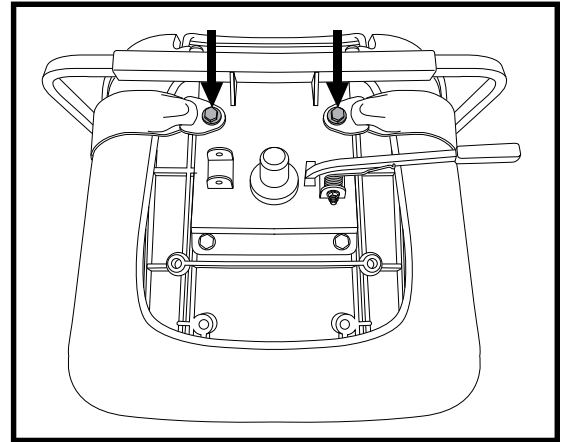

Figure 29. Positioning Belt Bolts
2. Place the seat upside down so that you can see the bottom of the seat base. See figure 29.